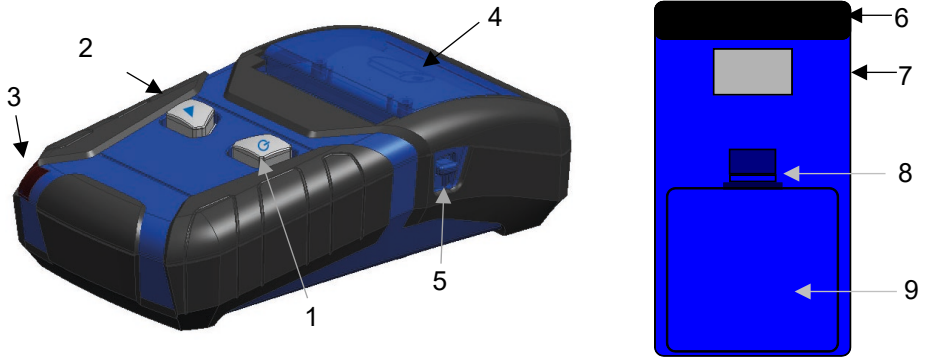

Fig. 1 Overview
- Open the paper compartment by pulling down the lever at the right side of the printer (Fig. 1, part 5).
- Put the cover of the paper compartment in a vertical position (Fig. 1, part 4).